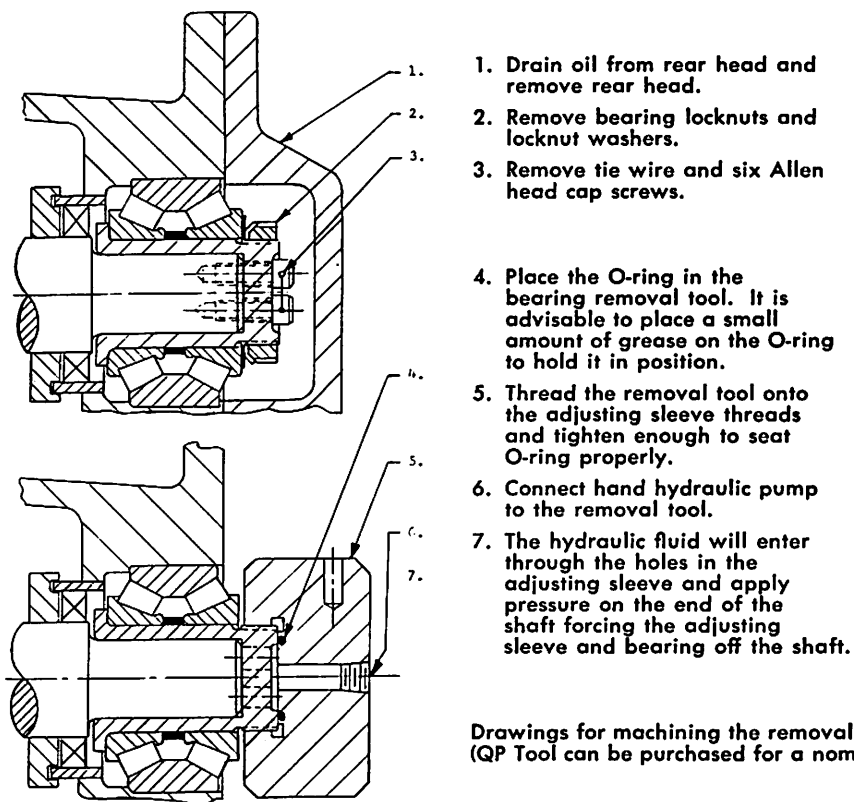

FIG. 6 — THRUST BEARING & ADJUSTING SLEEVE REMOVAL
2. Drain oil from front head (2) and rear head (3). Pipe plugs are provided for this purpose.
3. Disconnect cooling water tubing from inlet and outlet connections located on front head (2). Size No. 125 and 160 only.)
5. Remove rear head (3) from rear bearing bracket (5).
6. Remove lockwire from thrust bearing adjusting sleeve lock screws (45), then remove these lock screws.
7. Remove thrust bearing locknuts and lock washers (70) from adjusting sleeves (36).
8. Pull thrust bearings (48) and adjusting sleeves (36) from the shafts and rear bearing brackets. There are three ways to accomplish this:
- a) Drawings (Fig. 6 thru 6-D) included in this manual detail the construction of a bearing puller which will greatly facilitate removal of thrust bearings
and adjusting sleeves. Steps outlining the use of this tool are shown in Fig. 6.